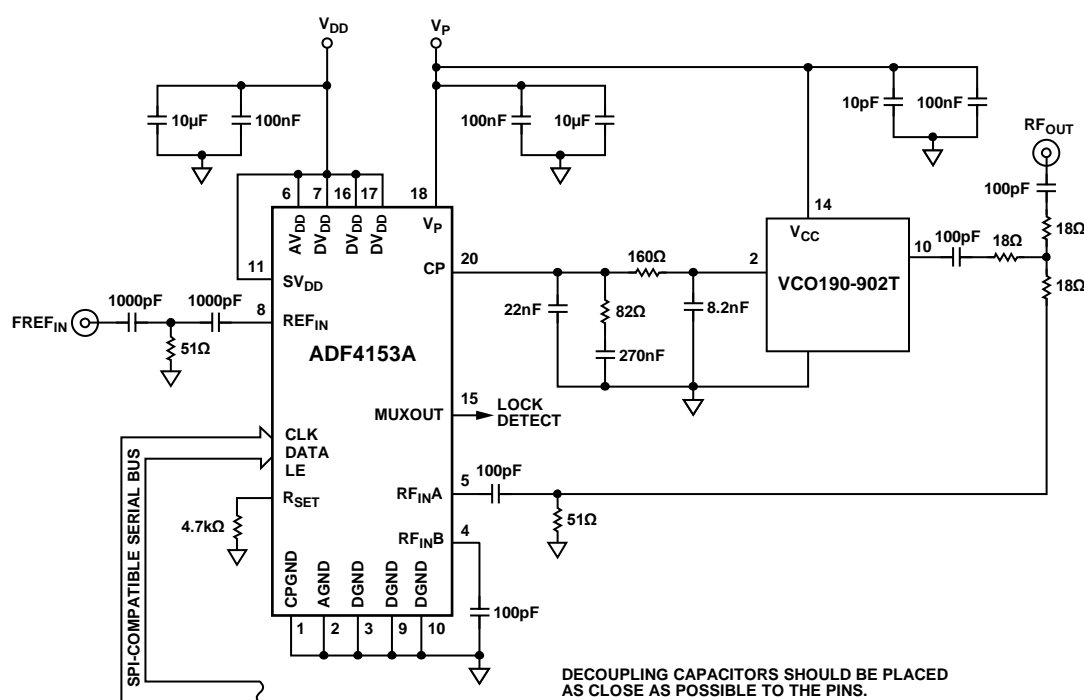

Figure 25. Local Oscillator for a GSM Base Station Transmitter
Figure 25 shows the **ADF4153A** being used with a VCO to produce the local oscillator (LO) for a GSM base station transmitter.